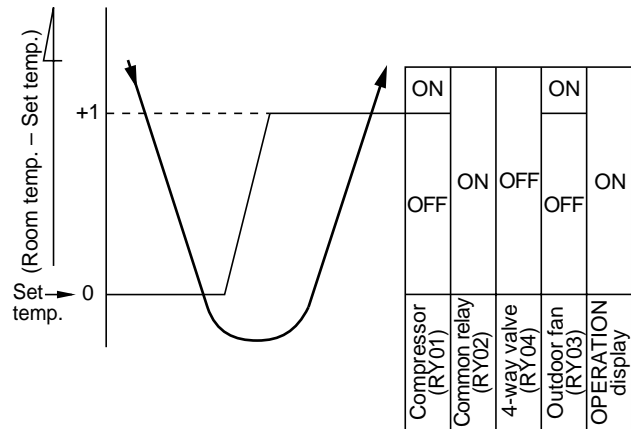

Fig. 7-2-1
- (1) Compressor 4-way valve, outdoor fan and operation display are controlled as shown in Fig. 7-2-1.